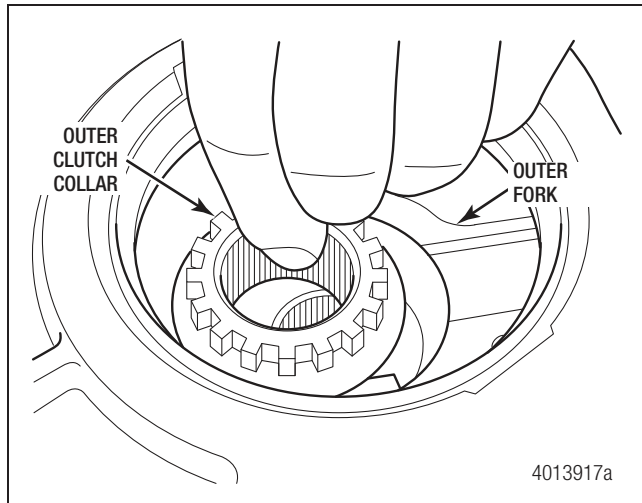

Figure 4.20
23. Remove the outer clutch collar. Figure 4.20.